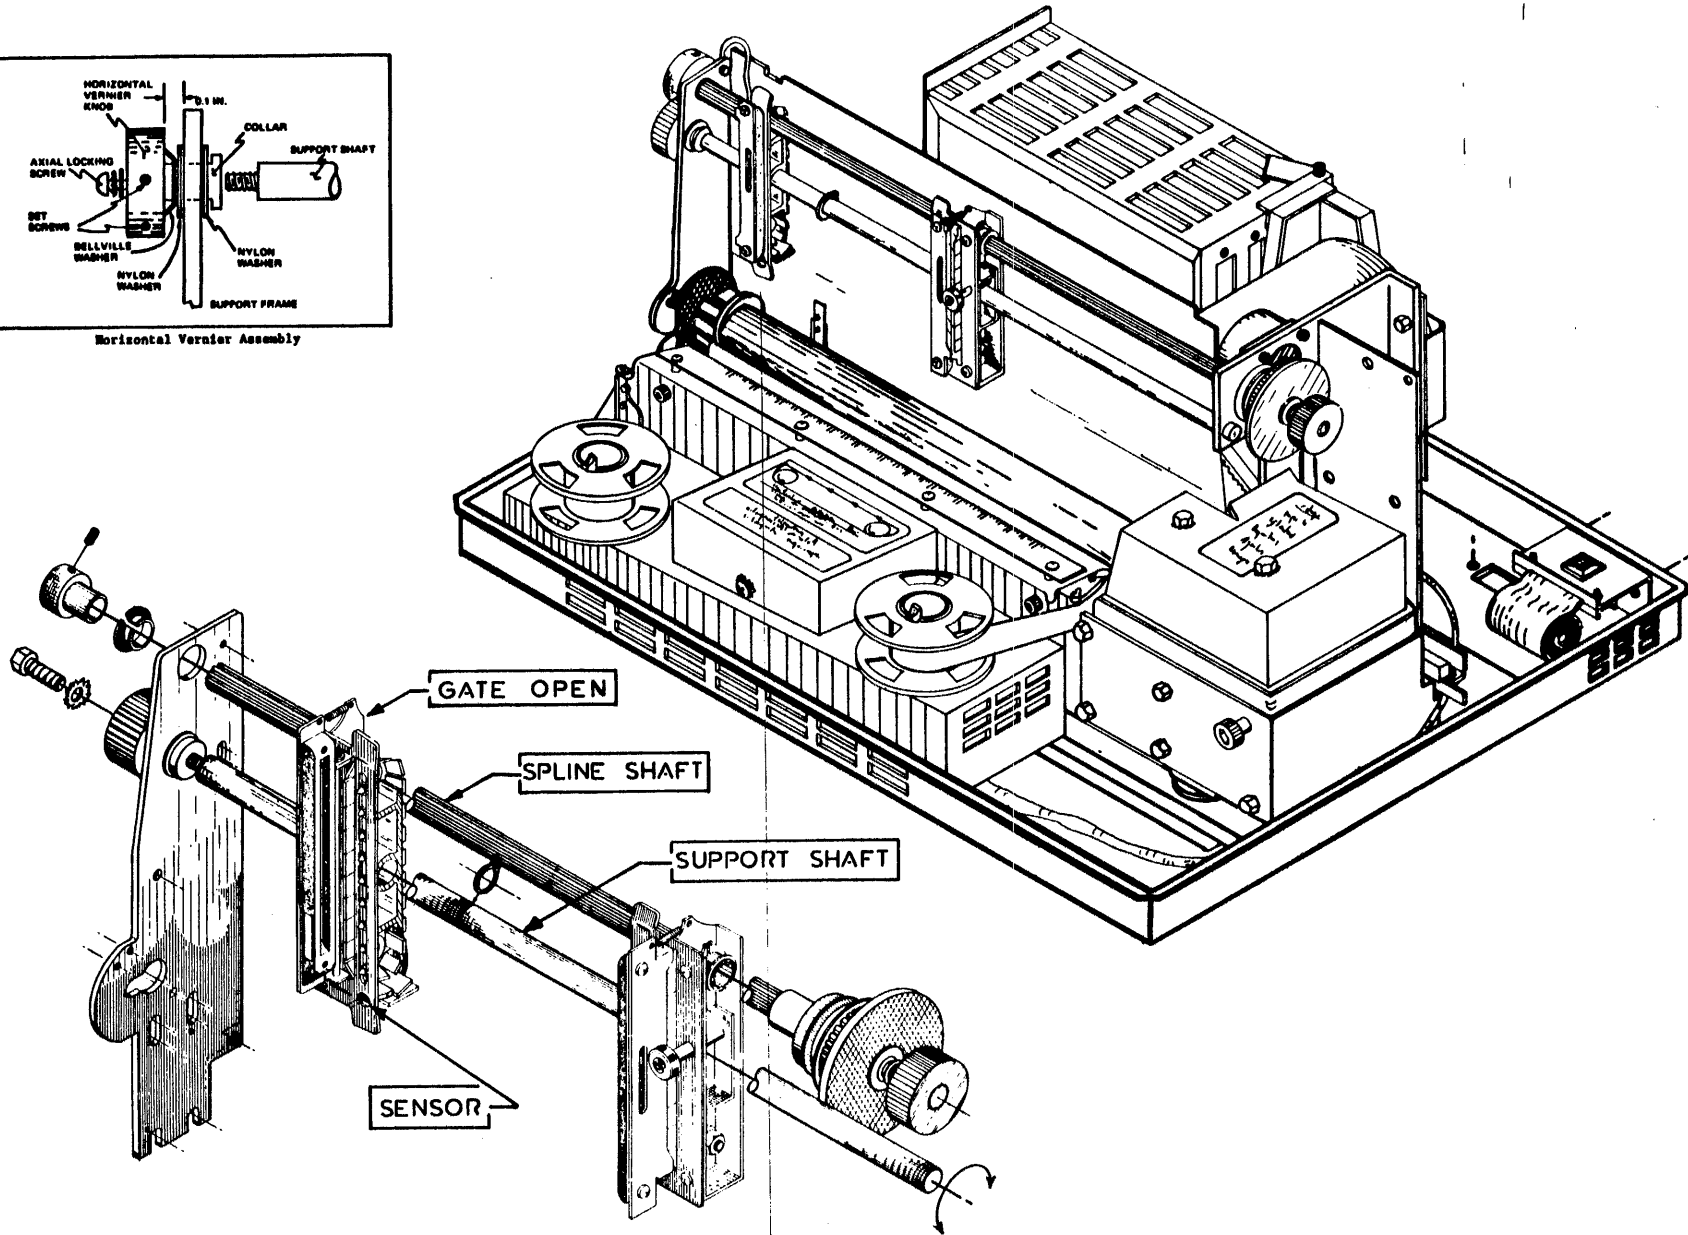

Figure 104 Replacing the Paper Tractor
- a. Loosen the set screw in the left bushing at the left-hand end of the spline shaft. Slide the spline shaft and the belt to the right, until the spline shaft bearing is free of the left side plate (**Figure 104**).
1. Remove the axial locking screw, star washer, and flat washer from the knob center (Figure 104).
- a. Remove the paper from the printer and open the left-hand tractor gate to expose the sensor in its alignment bracket. Both apertures in the sensor must be completely visible through the opening at the bottom of the tractor frame (**Figures 104 and 106**).
- b. Remove the screw and washers securing the support shaft and unscrew the support shaft itself (Figure 104).